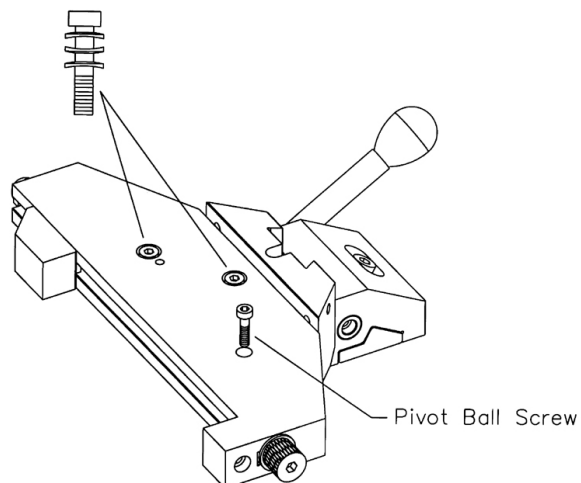

Figure 3
Insert each clamp screw into three back-to-back, front-to-front Belleville washers as shown as shown in Fig 3.
STEP 6. Place the V08 vise over the matching holes of the TD05 and allow the cam and pivot ball to seat into place as shown in Fig. 3.